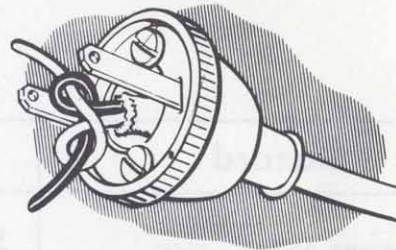

Figure 6
- 4. Extension cords or lamp cords should use underwriters' knot (Figure 6) _____